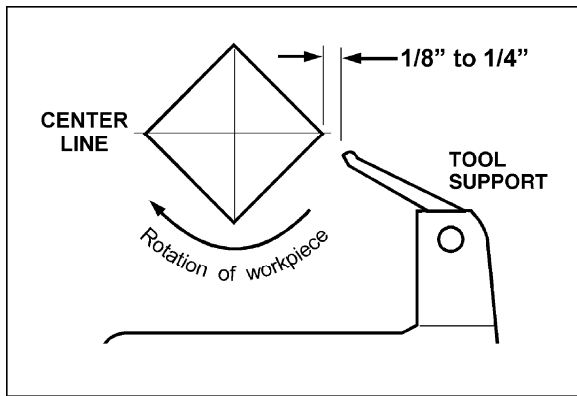

Figure 9-5
10. Move tool rest into position. It should be parallel to workpiece, just below the centerline and approximately 1/8" to 1/4" from the corners of the workpiece to be turned, as in Figure 9-5. Tighten tool rest base to Lathe bed.